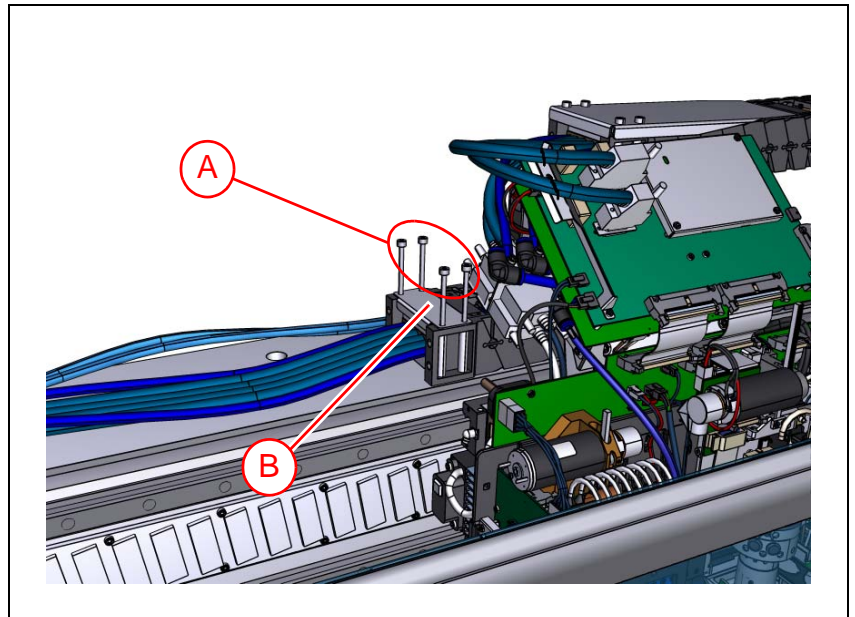

Figure 5-31. Detach cable chain from X beam.
4. In the X beam end of the cable chain, remove the four screws ('A' in Figure 5-31) from the clamp ('B') that attach the cable chain to the X beam.